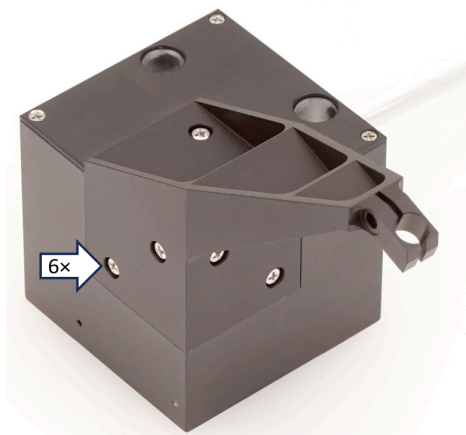

Fig. 11: P-616.3C: Mounted fiber holder (1 of the 6 fastening screws is concealed)
2. Fix the fiber holder to the 6 threaded holes provided using suitable screws as shown in Fig. 11 \(p. 25\). Maximum torque: 0.3 Nm.